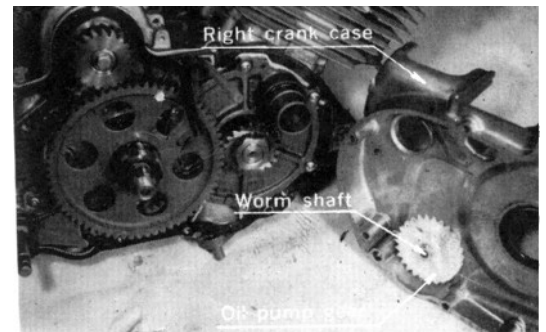

Fig. 41 Meshing oil pump gear
14. Mesh the oil pump gear with pinion gear by turning the worm shaft outside of right crankcase. (Fig. 41)